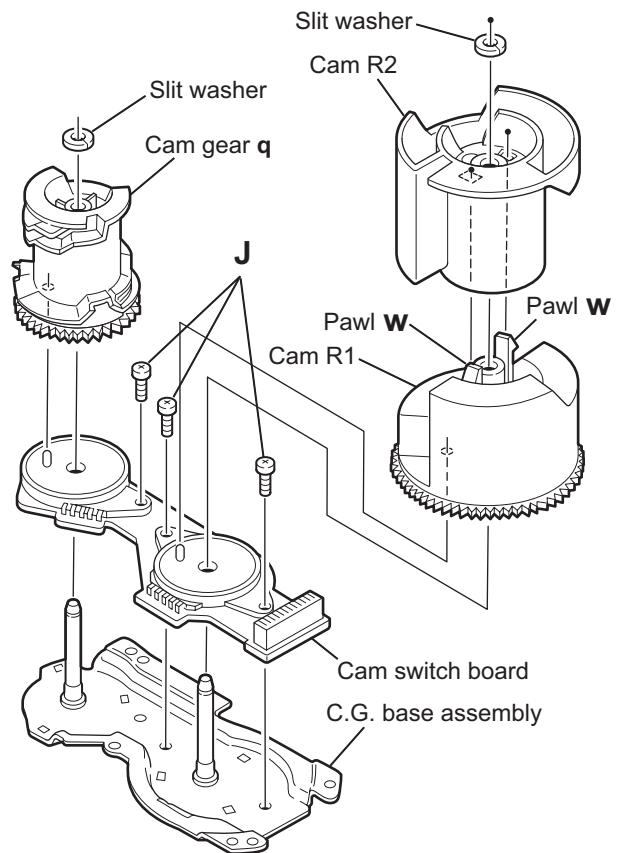

Fig.22
2.3.9 Removing the cams R1/R2 assembly and cam gear q (See Fig.22)
2.3.10 Removing the C.G. base assembly (See Fig.22 and 23)